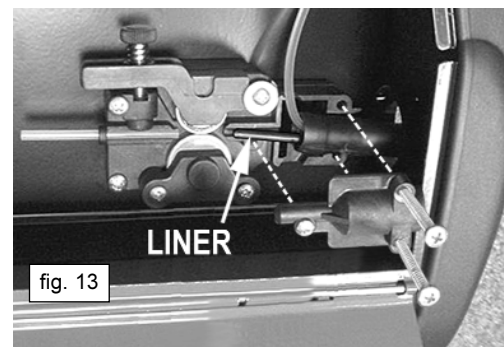

fig. 13
**6.6. Replacing wire liner** Wind the wire back onto the spool and secure it. Remove three screws securing the torch cable clamp to the wire feed unit (fig.13). Take off the clamp. Undo the torch case and disconnect wire liner from torch head. Pull out the liner (fig. 13) and insert the new one. Reverse the process to re-assemble and trim the liner as close to the feed roller as possible.